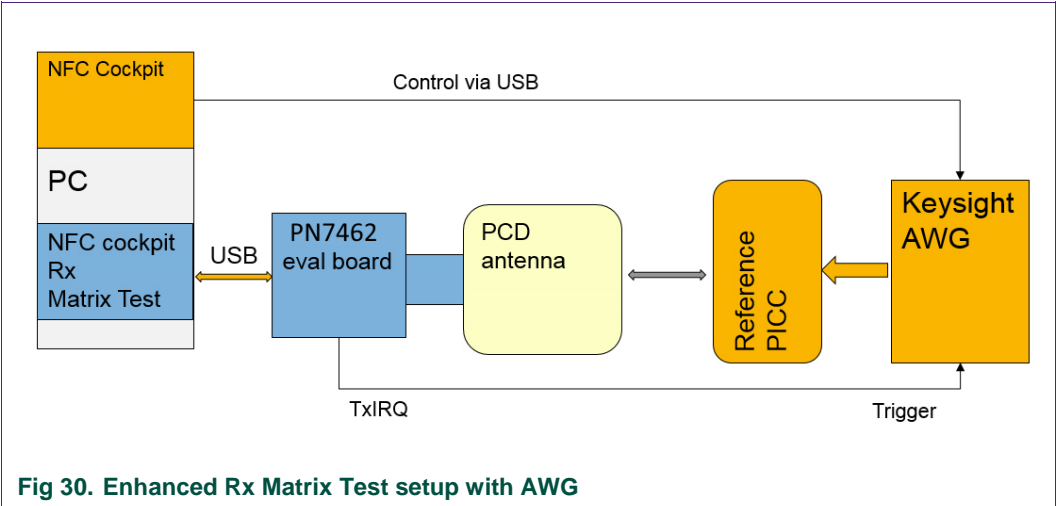

Fig 30. Enhanced Rx Matrix Test setup with AWG
Of course, the real smart card does not allow to vary the load modulation level, which helps to find the optimum (sensitivity). So, an extended test setup as shown in Fig 30 can be used to control the LMA voltage level. This setup contains
Step 1: Setup the hardware as shown in Fig 30. Place the Reference PICC close to the PCD antenna.